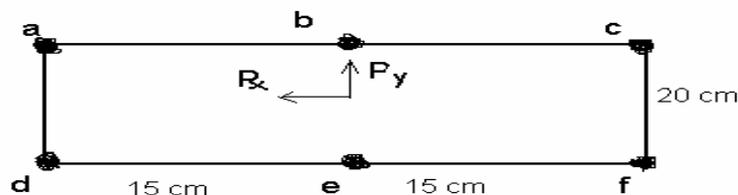

Figure 1 (b)
- (b). A box beam with 50 cm length is subjected to loads $P_x = 30$ KN and $P_y = 20$ KN as shown in the figure 1 (b). The stringer areas are $a = b = 4$ cm², $d = e = 3$ cm², $c = f = 2$ cm². Find the maximum bending stress. (14)